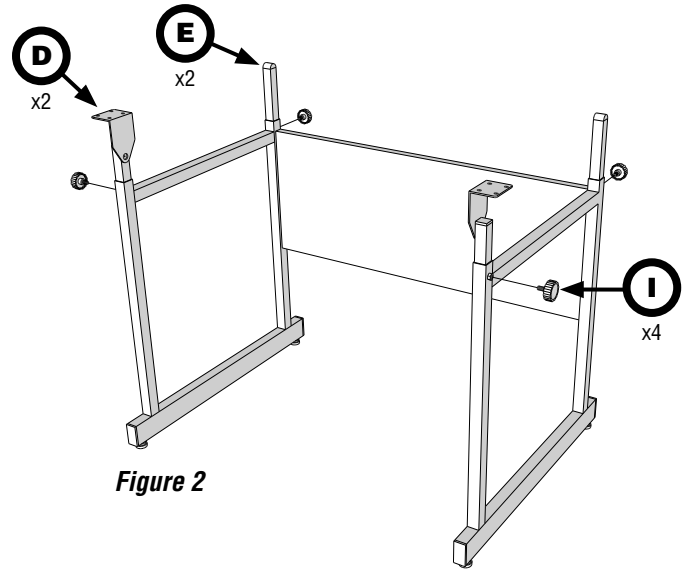

Figure 2
- 5** Insert front extension tubes (**D**) into front leg tubes of the frame with brackets facing out (see **Figure 2**).
- 6** Insert rear extension tubes (**E**) into rear leg tubes of the frame (see **Figure 2**). Curved black caps on extension tubes should face front to back.
- 7** Screw height adjustment knobs (**I**) into each leg tube (see **Figure 2**). Tighten gently with the extension tubes at their lowest position. (Final height will be adjusted after tabletop is attached.)